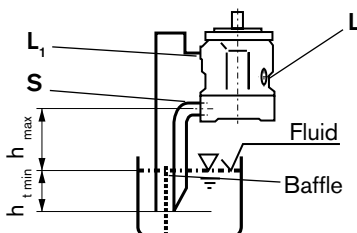

Fig. 2
b) If the min. fluid level is below the pump mounting surface: pipe port "L" and "S" acc. to fig. 2. Conditions acc. to item 1.2.1, close port "L₁".
Before installation fill pump housing, keeping it in a horizontal position. For mounting above the tank see fig. 2.